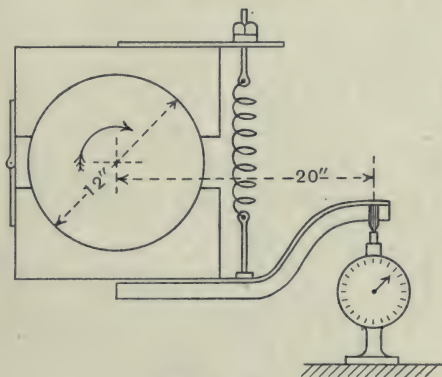

Fig. 124.
4. Fig. 124 shews an absorption brake arranged for measuring the horse-power given out by a water turbine. When the brake was arranged on a pulley, which was quite free to rotate without friction, the spring balance read 4 lbs. If the brake pulley of the turbine is rotating at 500 revolutions per minute, and the spring balance reads 36 lbs. find the horse-power given out.